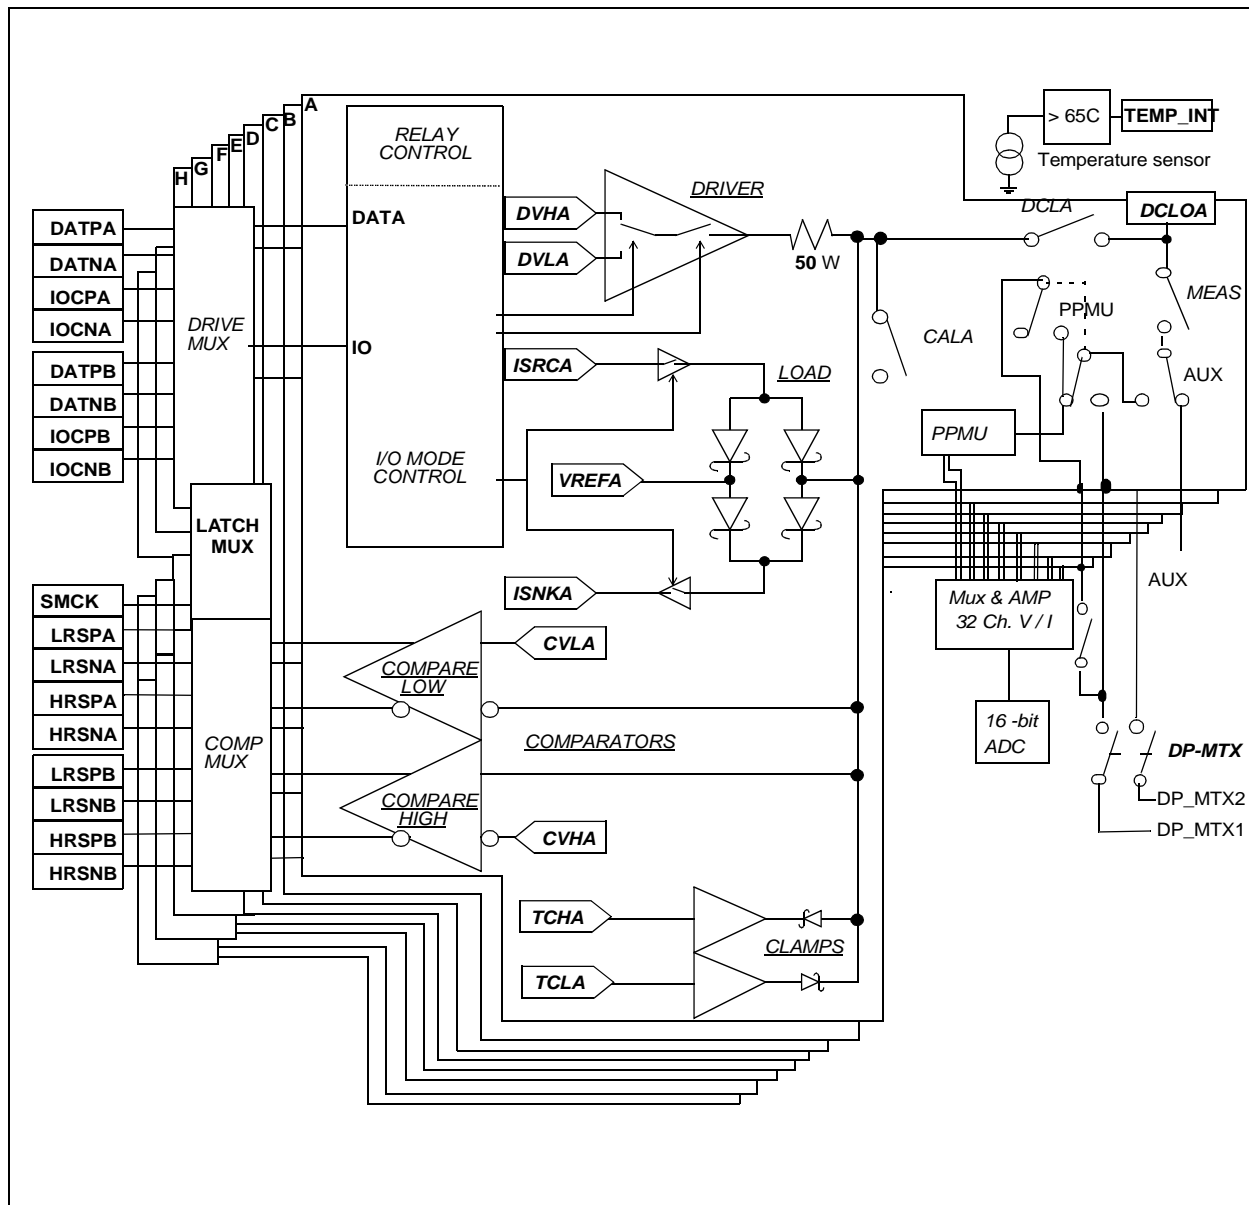

Figure 2.10: PECHF Test Channels, Block Diagram
Figure 2.10 on page 2-30 shows a block diagram of the test channel functions.
Regarding Figure 2.10:
- Differential: Adjacent test channels function in pairs, e.g., channel A and channel B (refer to Figure 2.10, PECHF Test Channels, Block Diagram, on page 2-30).